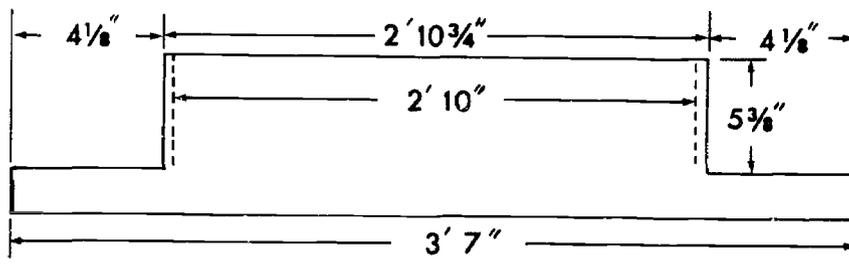

FIGURE 8
(2) One-piece sill: Where a one-piece sill is used as in the alternate sill, Figure 7, its length will be equal to the width of the outside casing, or $2' 10'' + (2 \times 4 \frac{1}{2}) = 3' 7''$. The sill must be relished beneath the outside casings as shown in Figure 8.
If the sill is of one piece, it is taken to the Universal saw or special dado machine and the ends are relished as shown in Figure 8.